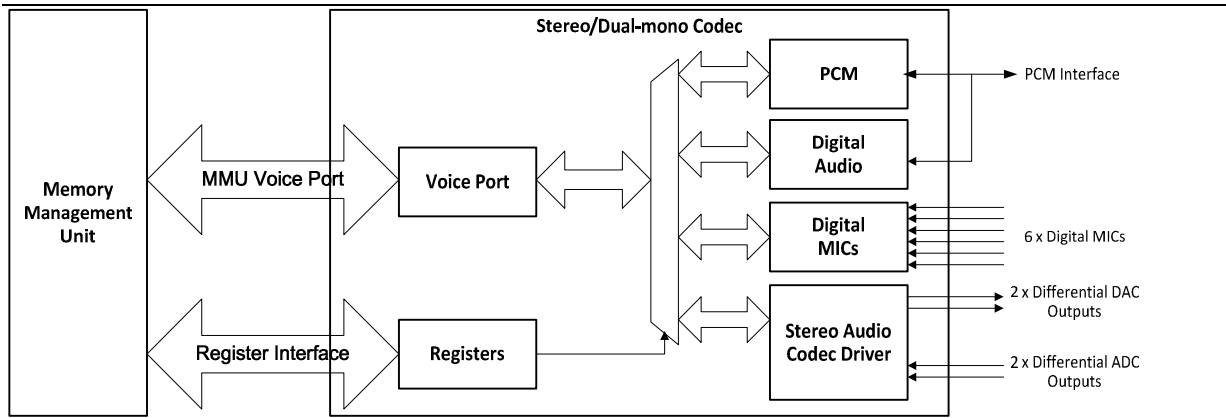

Figure 4 Audio Interface
- 2 fourth-order Sigma-Delta converters enabling 2 separate channels that are identical functionality, as figure 4 shows